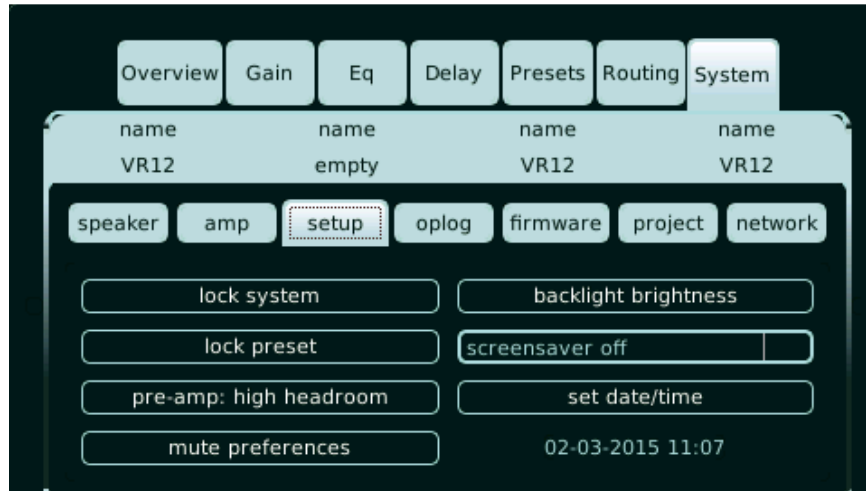

Fig 22. Set-up menu with setting options
**7.7.3 Setup** - in this section, different system functionalities can be set, like system lock, screensaver function (the “eye”), date/time and mute-setting options. (see fig.22)
**7.7.4 Lock system** - with pressing this button, the QWERTY keyboard pops-up, to enter a password code; Confirm code and the active tab switches to Overview tab, with which all tabs are locked and only the Mute buttons can be operated. (see fig.22)
**7.7.5 Lock preset** - with pressing this button, the QWERTY keyboard pops-up, to enter a password code; Confirm code and the active tab switches to Overview tab, with which System tab and the Preset tab are locked. (see fig.22)
**7.7.6 High headroom/low noise** - the analogue input sensitivity can be adjusted; “High headroom”, allows driving the amp with an analog input signal +21dBV (+23dBu) Use this setting when the signal source can exceed +6dBV (+8dBu), usually higher-SPL applications. In the “Low noise” setting the input stage is fully driven with a +6dBV (+8dBu) signal. The signal is internally boosted to fully utilize the ADC's quantization space, resulting in a better signal-to-noise ratio. Use this setting when working with signals not exceeding +6dBV (+8dBu), usually low-SPL applications. This applies to the analogue inputs only. In both settings the overall gain remains the same. (see fig.22)
**7.7.9 Screen saver** - this function enables time-out setting for the screen saver (the “Eye”). Selectable settings are: Activation after 30 seconds, 2 minutes, 10 minutes or off. (see fig.22)
**7.7.10 Change date/time** - date and time can be adjusted, with which both the visible date/time dialog as well as the internal “date/time stamp” in the log files is changed. (see fig.22)